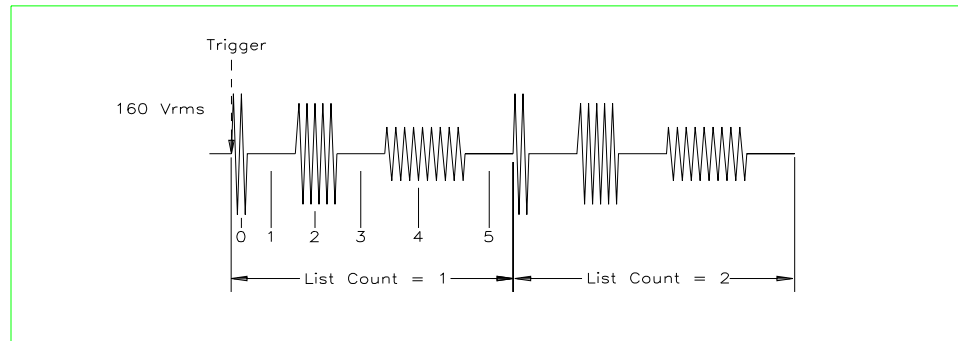

Figure 5-29: List Transients
13. Move the cursor to the END DELAY field and enter 0.067 for a interval delay of 67 ms. Notice that we effectively combined steps 0 and 1 from Figure 5-29 into a single list event.
21. Move the cursor to the START field and press the ENTER key. The transient program you just created will execute two times. If you have an oscilloscope connected to the output, you may be able to see the output voltage change per Figure 5-29.